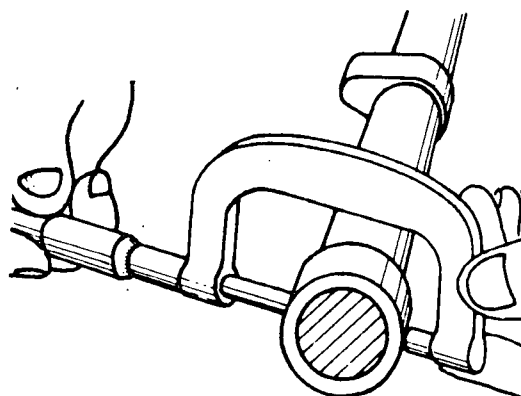

Fig. 1
- b) Check the journals of the camshaft with a micrometer according to specifications (fig. 1).